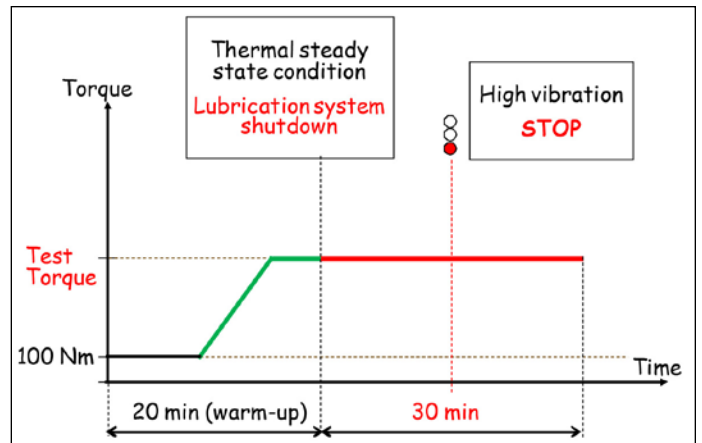

Figure 1 Test procedure.
- Over the years, HMC has seen misalignment cases where companies get in a hurry and/or have a lack of proper supervision and instructions. The girth gear driving pinion ends up getting aligned to the reducer, causing a misalignment issue between the girth gear teeth and the driving pinion teeth (Fig. 1).
**Figure 1** Example of girth gear misalignment: girth gear driving pinion end is aligned to the reducer, causing misalignment between the girth gear teeth and driving pinion teeth (courtesy HMC).
The tests involved (Fig. 1):